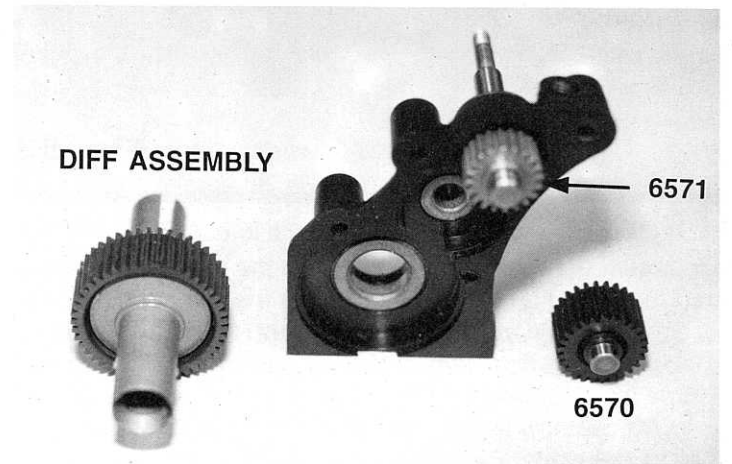

Fig. 56
□ **Figs. 56 & 57** We now need to install the diff assembly into the right case half. We need to make sure that the diff bolt head goes through the right case half. We want to end up with both adjustment points on the same side (the torque clutch and diff bolt). **WARNING!! If you install the diff bolt head so that it is on the driver's side of the transmission, you may have a problem with the diff adjustment backing off and the diff then slipping.**